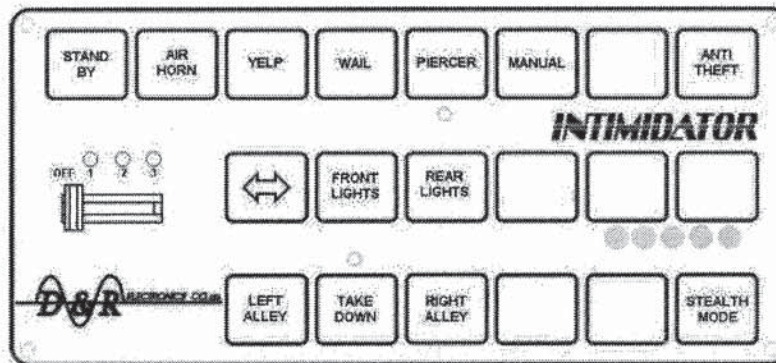

Figure 13 – D&R Electronics – Intimidator Controller
- a. Siren buttons: "manual", "stand-by", "air horn", "piercer", "wail", "yelp", and "hi-lo" (if this siren tone is available). Function assignment for buttons shall follow the layout examples in *Figures 13 to 14*;
- (1). **Position 1:** All rear-mounted police lights activated (hide-away, rear tail lights flasher, rear visor / traffic director on warning mode, deck lights) and all intersection lights activated;
- (2). **Position 2:** All front-mounted police lights activated (hide-away, wig-wag, grille lights and front visor) and all intersection lights activated; and
- (3). **Position 3:** All police lights activated (including roof light bar, front visor, and rear visor / traffic director on warning mode);
- (1). Press one time: Move traffic to the left;
- (2). Press a second time: Move traffic to the right; and
- (3). Press a third time: "Warning" mode.
20. Function assignment for all buttons and switches on the emergency equipment controllers shall follow the layout examples in *Figures 13 to 14*.
- a. D&R Electronics – Intimidator, model F3.3150S (see Figure 13 for configuration);